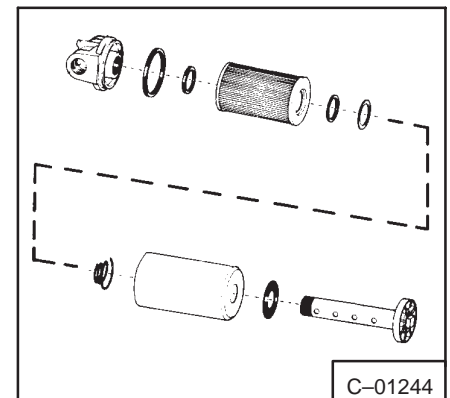

Fig. 4 Hydraulic Oil Filter
5. Reassemble the filter on the filter head. Figure 4 shows the relationship of parts. Check the quad-ring seal on the filter head for damage before reinstalling the can.